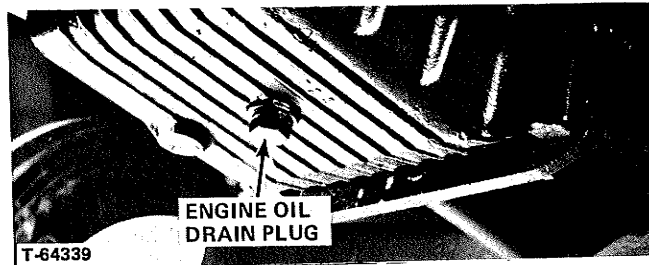

FIGURE 8 - Bottom View
Drain and refill crankcase with fresh clean oil after the first 50 hours of operation. After that, every hundred hours. Drain plug is located at bottom of crankcase (Figure 8). One grade lighter oil, than specified, should be used while breaking in a new or rebuilt engine.
2. Using a small wrench (not a screwdriver) turn the small hex head bleed screw on the R.H. side of the fuel injection pump 1-1/2 to 2 turns outward (counterclockwise). DO NOT fully remove the screw. See Figure 8-A.